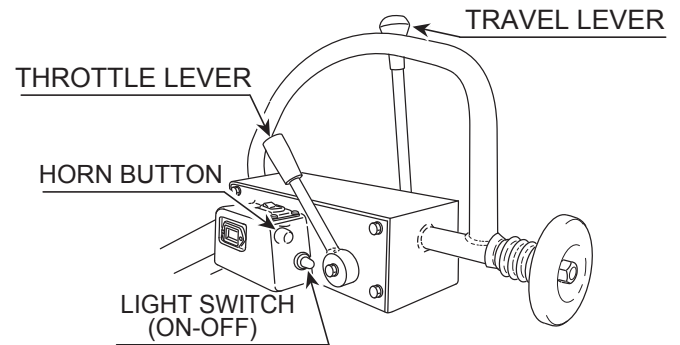

Figure 8. Levers, Horn, and Light Check
1. Check travel and throttle levers to make sure they are functioning properly (Figure 8).
2. Turn on the light switch and confirm that the headlight comes on (Figure 8).
3. Press the horn and verify that it sounds normally (Figure 8).